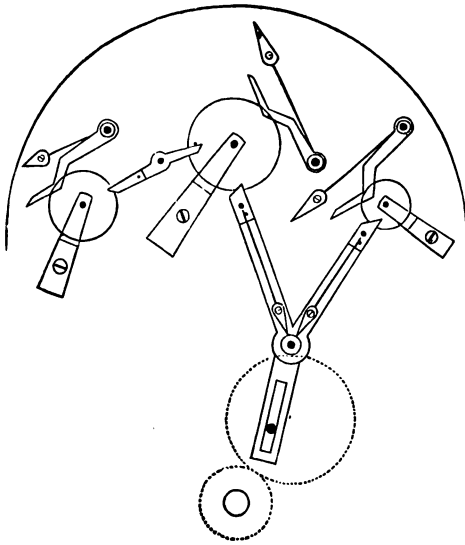

Fig. 1.
**Simple Calendar Work.**—A simple calendar work is shown in Fig. 1. Gearing with the hour wheel is a wheel having twice its number of teeth, and turning therefore once in 24 hours. A three-armed lever is planted just above this wheel; the lower arm is slotted, and the wheel carries a pin which works in this slot, so that the lever vibrates to and fro once every 24 hours. The three upper circles in the drawing represent